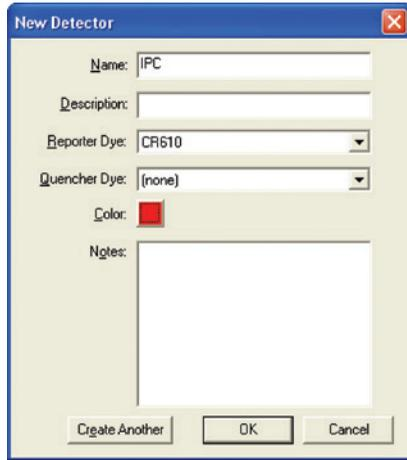

Figure 23. Create a detector with the New Detector window.
5. For the first use only, select “New Detector...” in the Select Detectors section of the New Document Wizard window. The New Detector window will appear (Figure 23).